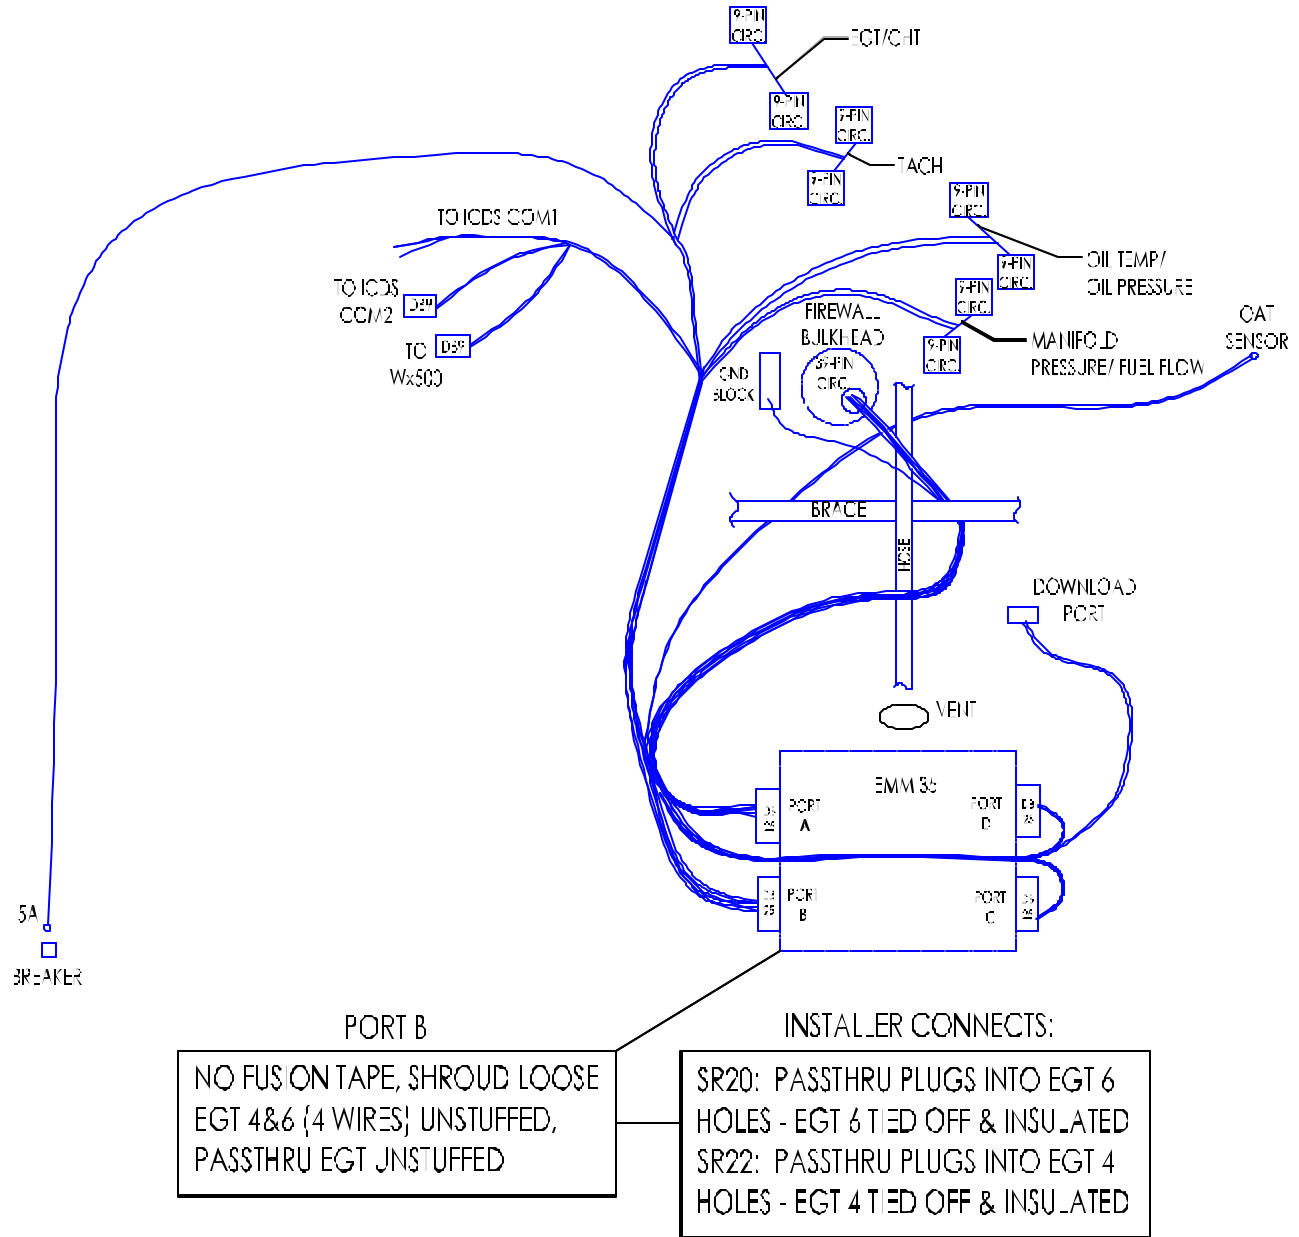

Figure 4-1
1. Familiarize yourself with the main internal harness by referring to **Figure 4-1**.